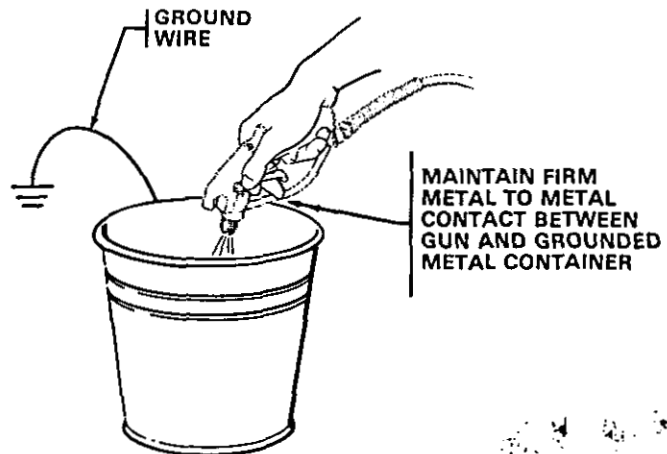

Fig 6
6. Disengage the gun safety latch. Point the spray gun into a grounded metal waste container and with a metal part of the gun firmly touching the metal container, squeeze the gun trigger. See Fig 6. **This procedure helps reduce the risk of static sparking and splashing.** With the gun triggered, turn the ON/OFF switch to ON and slowly turn the pressure adjusting knob clockwise *just until* the sprayer starts. Keep the gun triggered until clean solvent comes from the nozzle. Release the trigger and engage the gun safety latch.